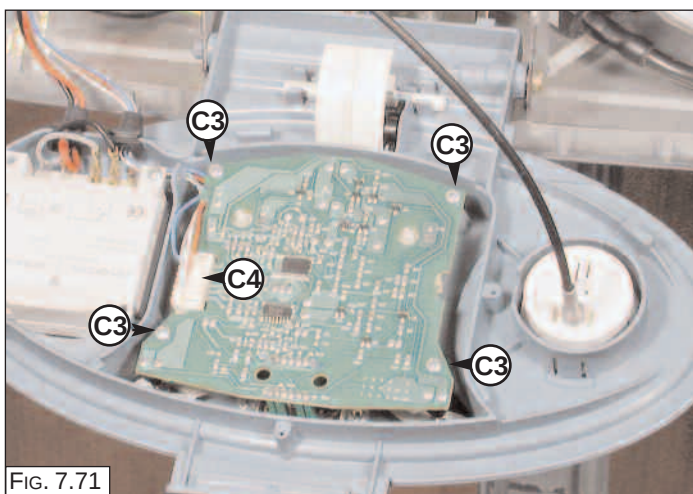

FIG. 7.71
7. Unscrew the display P.C.B. mounting screws "C3" and disconnect the P.C.B. connection cable "C4" (FIG. 7.71);